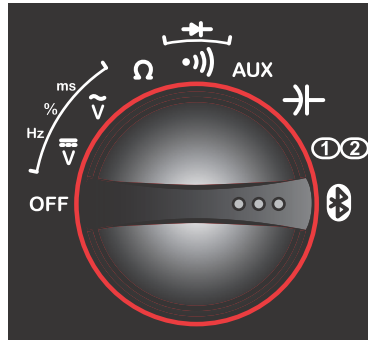

Figure 12-3 Rotary switch Remote Functions setting
5. With Bluetooth Discovery enabled, turn the M2 Scope/Meter Rotary Switch to the Remote Functions position (Figure 12-3).